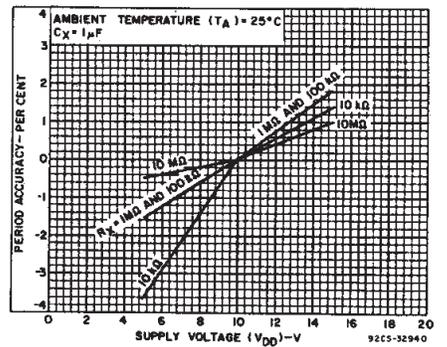

Fig. 11—Typical astable oscillator or Q, Q̄ period accuracy vs. supply voltage.
**B. Variations Due to  $V_{DD}$  and Temperature Changes** — In addition to variations from unit to unit, the astable period varies with  $V_{DD}$  and temperature. Typical variations are presented in graphical form in Figs. 11 to 16 with 10 V as reference for voltage variations curves and 25°C as reference for temperature variations curves.